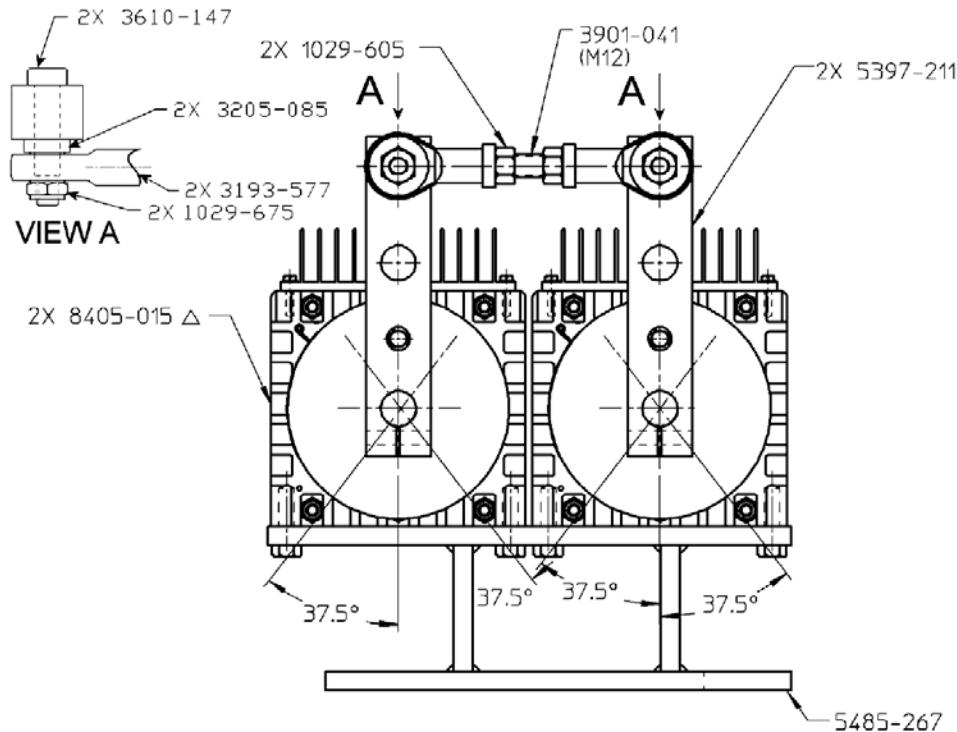

Figure 3. Tandem ProAct IV Actuator
5. Refer to Figure 3. On the actuator to be replaced, loosen nut (self-locking) 1029-675 with a 17 mm wrench while blocking hexagon socket head shoulder screw 3610-147 with a 6 mm hexagon key. Do not drop spacer 3205-085 when removing the screw from the terminal lever. Leave the connecting link connected to the terminal lever of the second actuator, and rotate it out of the way.
7. Remove 4 hexagon head screws 1084-068 (not shown in Figure 3) using a 0.500" (~13 mm) wrench.
4. Refer to Figure 3. Rotate the terminal lever of the existing actuator fully counterclockwise until it is stopped against its internal stop. Leave it in this position. Do the same with the output shaft of the new actuator (if the output shaft is difficult to turn manually, temporarily install output lever 5397-211 on the output shaft and use it to turn the shaft).